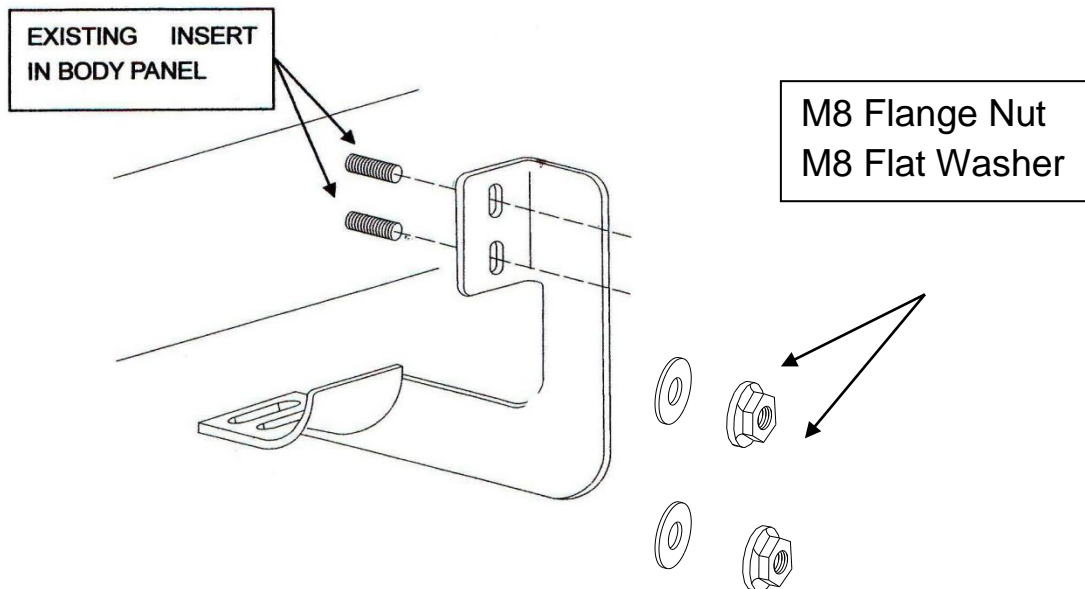

Figure 1. Driver Side – Front & Rear Bracket
- Determine driver side brackets. All driver side brackets are identical with metal cup facing toward the rear of the vehicle (see Fig. 1).
- Install driver side bracket closest to the front wheel first. Use one, M8 flat washer, M8 Flange Nut by attaching to underside of body panel. Hand tighten. Use existing factory hole in body panel for install (see Fig 1).
- Attach remaining driver side brackets to underside body panel by using 2 M8 Flange Nut, M8 flat washers per bracket. Hand tightens. Use existing factory holes in body panel (see Fig. 1).